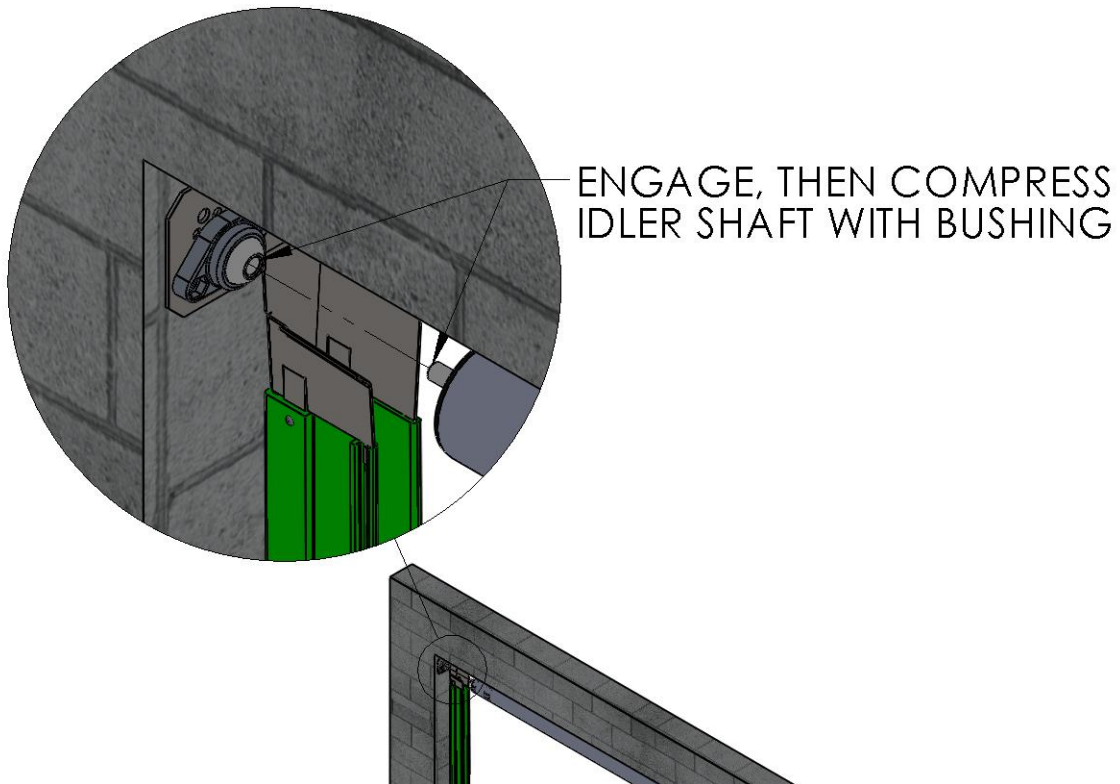

Figure 7 INSTALL L.H. SIDE OF HEADER ASSEMBLY
1. Using two (2) people, and two ladders at minimum, raise the Header Assembly, and insert the Idler Shaft into the installed Idler Bearing Assembly at upper left. (Figure 7 INSTALL L.H. SIDE OF HEADER ASSEMBLY)